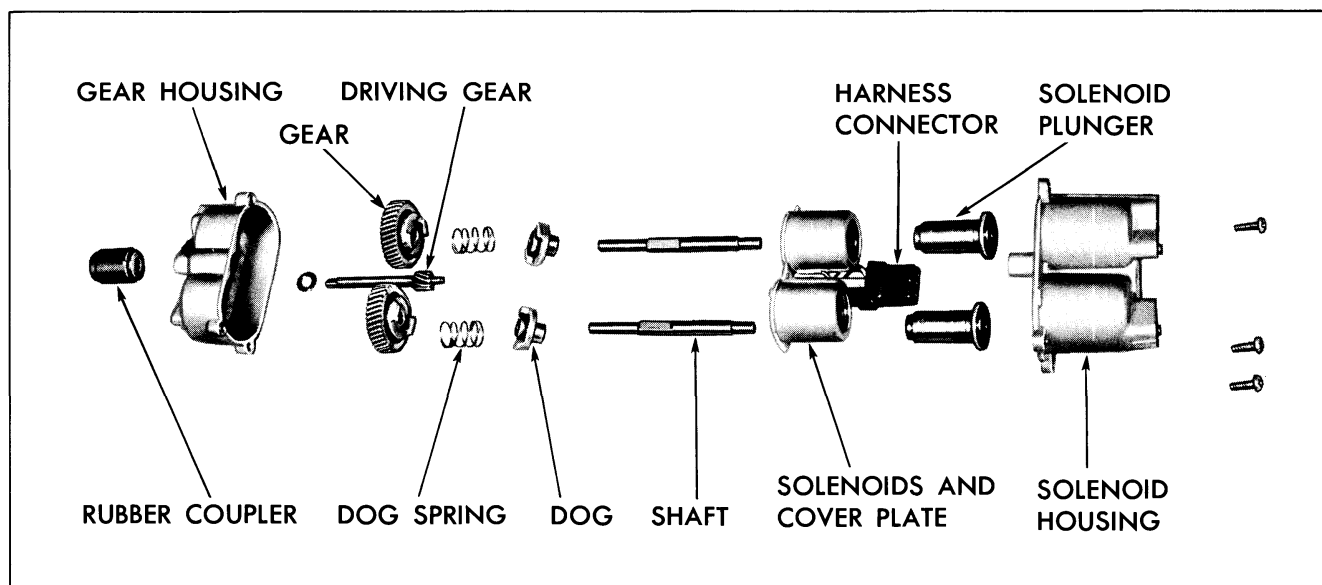

Fig. 22-8 4-Way Seat Transmission
2. Remove screws securing gear and solenoid housings together; then, carefully separate housings and remove component parts of transmission (Fig. 22-8).